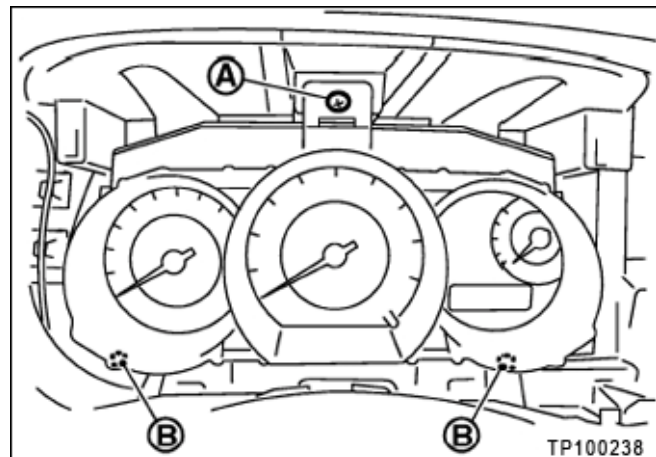

Figure 12
- a. Remove screw **A** shown in Figure 12.